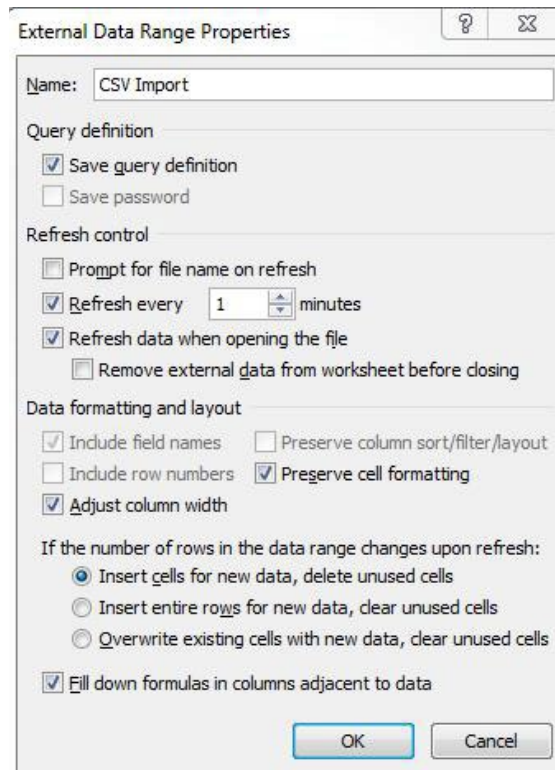

Figure 2. Properties selections
5. An Import Data window appears: select **Existing Worksheet**, and select the **default cell location of A1**. Now select **Properties** and make the selections as shown in figure 2 then click **OK**.